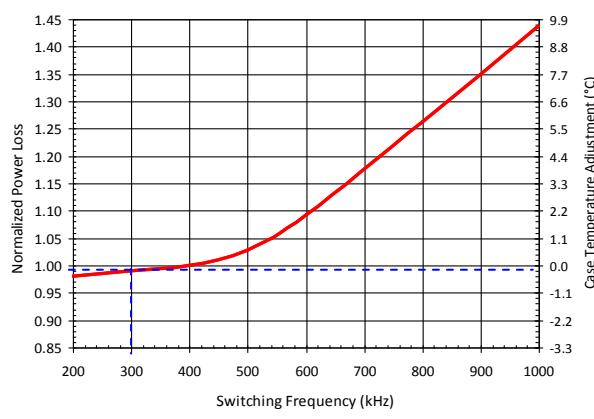

Figure 13: Normalized Power Loss vs. Switching Frequency
- 4) Determine the switching frequency normalizing factor with  $f_{sw} = 300kHz$ , which is 0.99 based on the dashed lines in Figure 13.